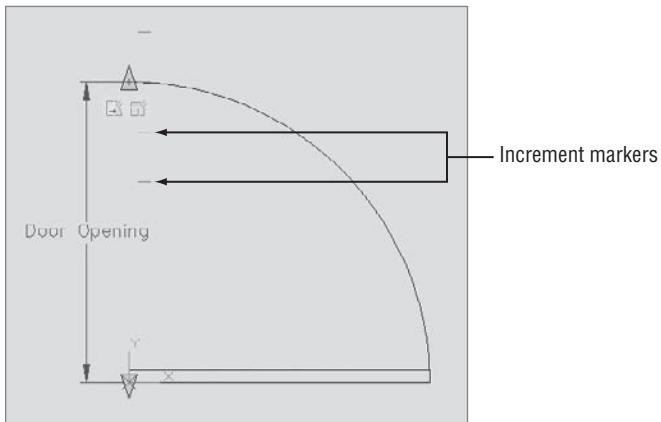

FIGURE 9.48 Dynamic door block with increment markers for the opening widths
- Deselect the Distance parameter. It now has the increment markers for the door opening widths (see Figure 9.48).